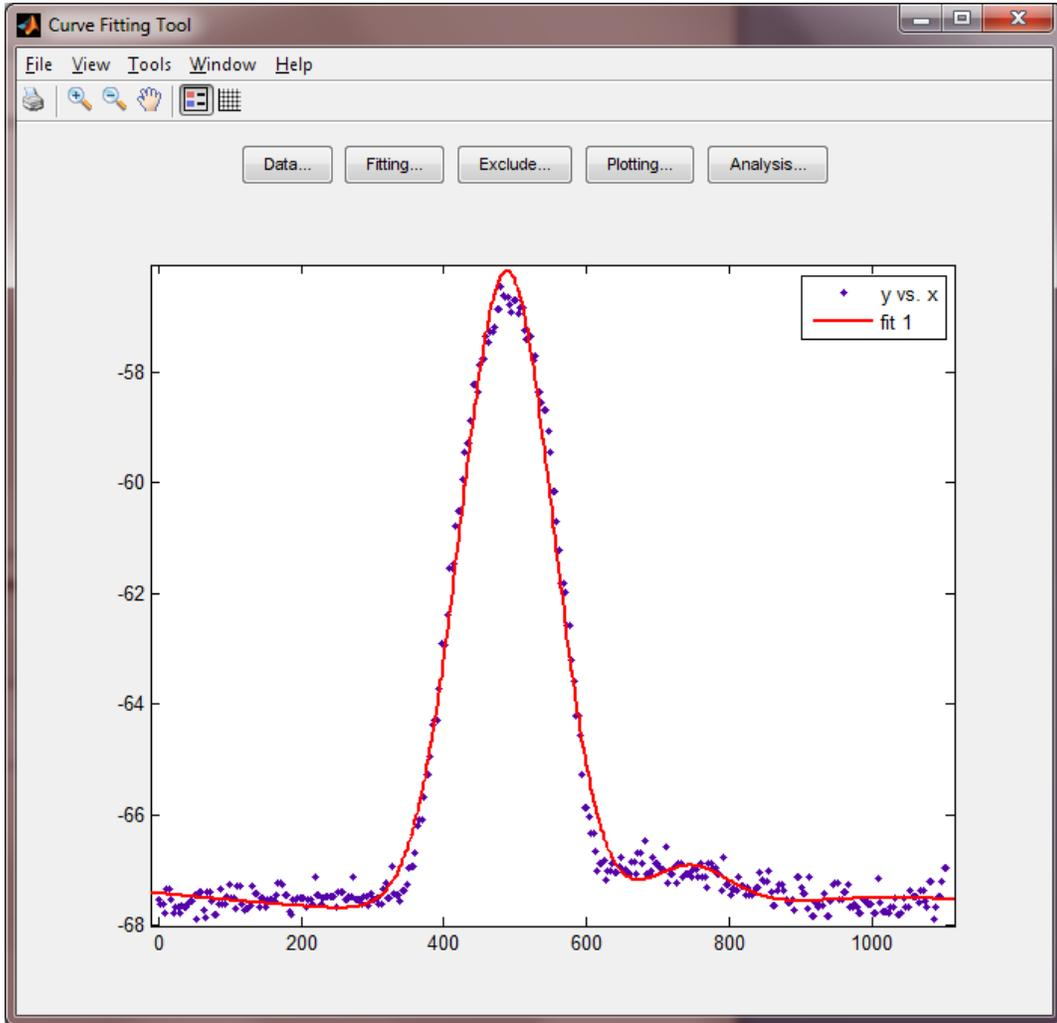

Fig 8: Curve Fitting Tool
- 3) Use curve fitting tool to get, Gaussian fit for as shown in Fig 8.